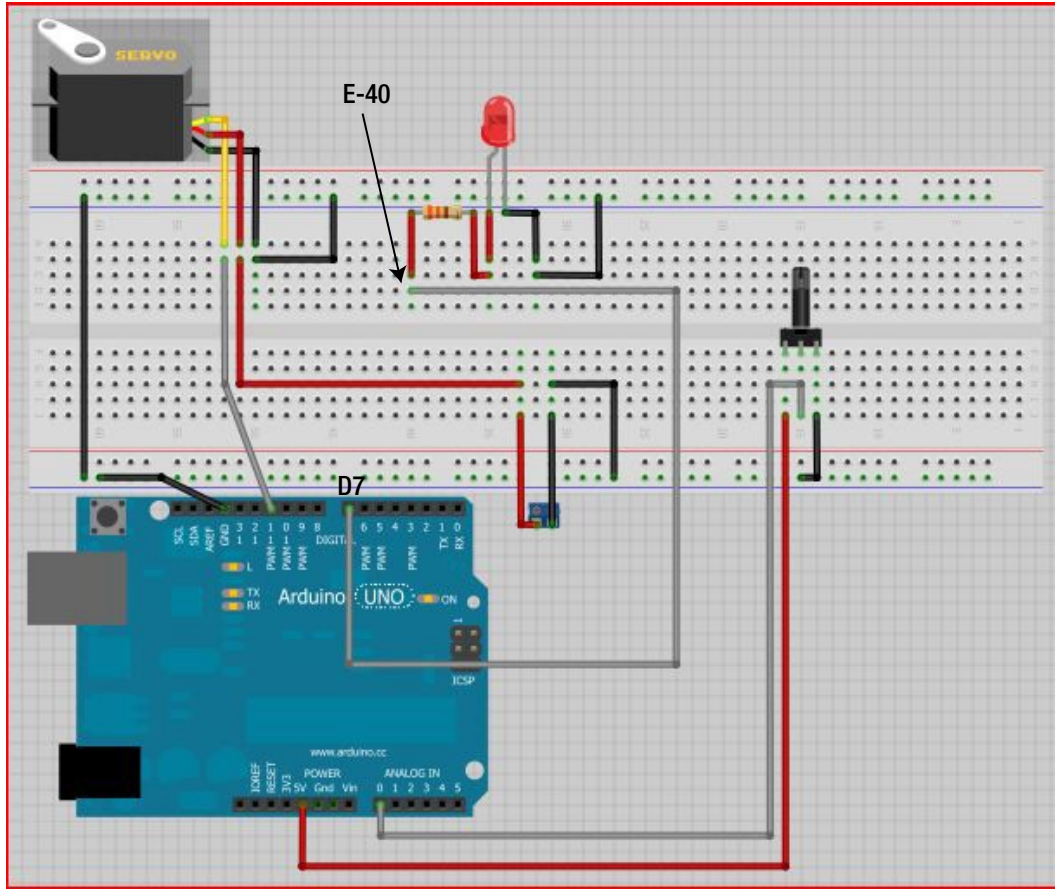

Figure 23-16. Connect digital pin 7 from the Arduino to the resistor attached to the LED
15. Now connect digital pin 7 (D7) on the Arduino to the resistor on the breadboard at E-40. We used a green wire once again. Figure 23-16 illustrates this process.